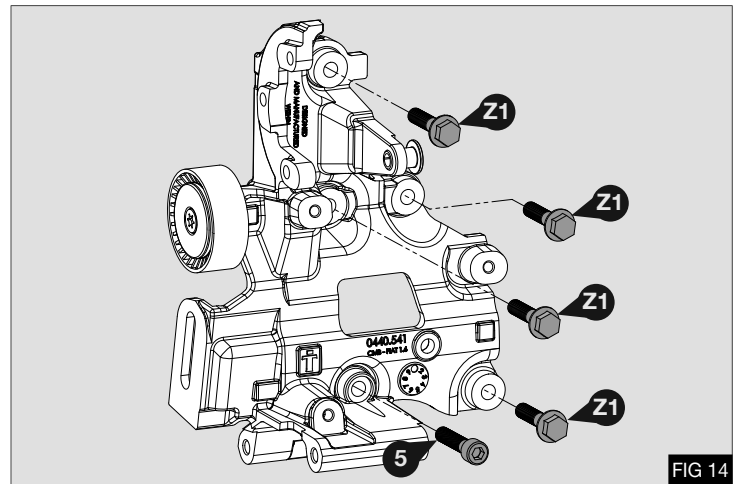

FIG 14
5. Fit the bracket assembly to the engine using original M10x45 bolts (Z1), and supplied M10x45 cap head bolt (5). Use original location dowels for alignment - Figs 14 &15
7. Torque bolt (5) to 50Nm/36.8Lbft